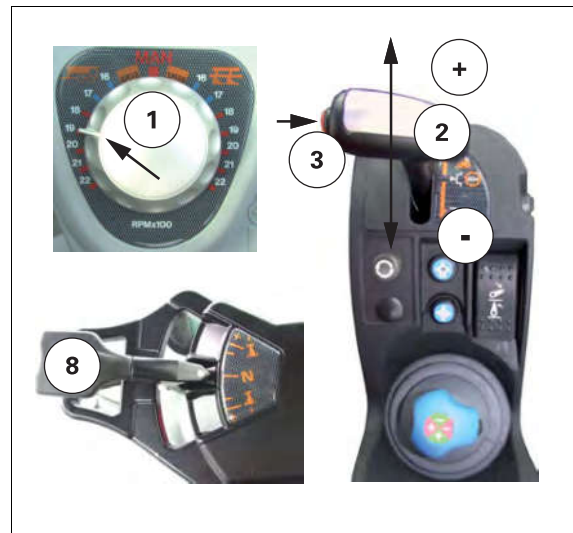

Fig. 1.
IMPORTANT: When the shuttle lever (8) fig. 1 is in forward or reverse position, the tractor moves at the preselected speed stored during the last setting operation.